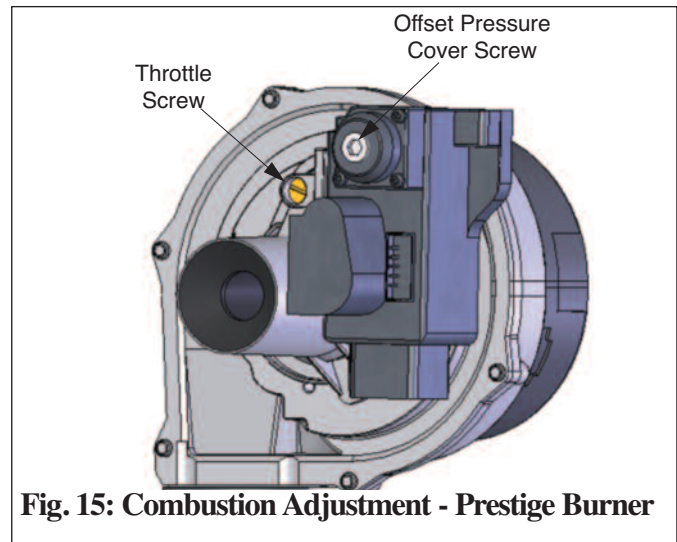

Fig. 15: Combustion Adjustment - Prestige Burner
adjust the THROTTLE SCREW (see Fig. 15) using a flat-blade screwdriver as follows:
4. If the CO2 combustion level during low fire is not within +/- 0.2 of the combustion level measured at high fire, remove the offset cover screw and adjust the plastic OFFSET SCREW (see Fig 15) using a T-40 Torx wrench as follows:
6. If the combustion levels during high fire are outside the recommended combustion settings adjust the THROTTLE SCREW (see Fig. 15) using a flat-blade screwdriver as follows:
8. If the CO₂ combustion level during low fire is not within +/-0.2 of the combustion level measured at high fire, remove the offset cover screw and adjust the plastic OFFSET SCREW (see Fig. 15) using a T-40 Torx wrench as follows: